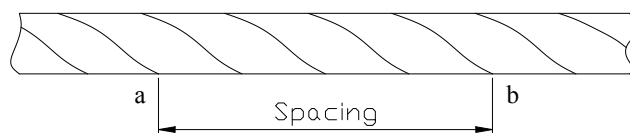

Figure 7: Steel Rope
- b. The steel rope should be rejected when the rope breaking number within the range of ab spacing reaches 5 (see figure 7 as below). When any corrosion or abrasion on the surface of steel rope, the standard for rejection is reduced further. The percentage of reduction is that the maximum allowable breaking numbers 5 times the percentage of the corrosion or abrasion on the surface of steel rope to make deduction.